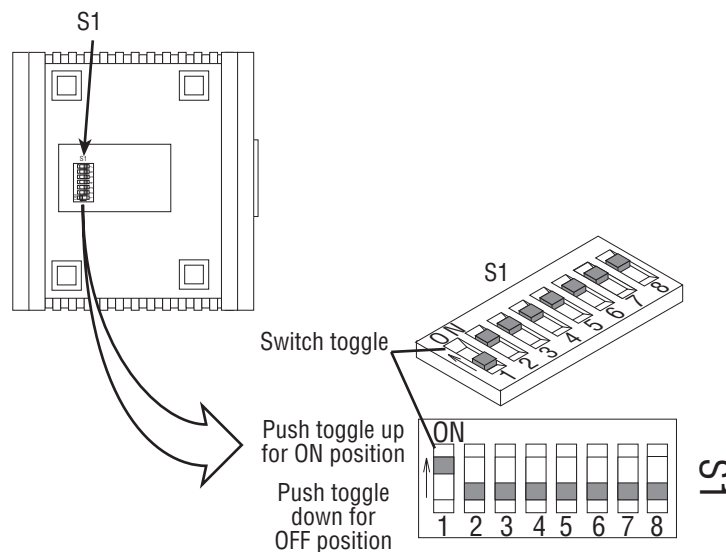

Figure 7. DIP switch orientation
2. The DIP switches are externally accessible from the underside of the CL1212. Figure 7 shows the orientation of the DIP switches in the On and Off positions.